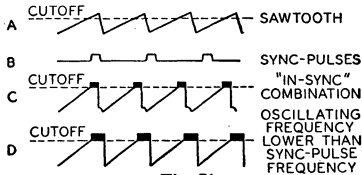

Fig. 71
are also applied to the grid of V_1 . The waveforms shown in Fig. 71 illustrate the sawtooth and sync pulses (A and B) and their proper "in-sync" combination (C). The sync pulse occurs partly during the portion of the sawtooth voltage in which the triode V_1 draws current. Any shift in sync pulse as it is superimposed
For example, waveform D in Fig. 71 illustrates a condition in which the sawtooth voltage is advanced in phase with respect to the sync-pulses. The widening of the pulse which occurs at the corner of the sawtooth waveform allows the control tube to conduct more current and, consequently, allows the capacitor C_1 to charge to a higher voltage. This increased reference voltage also appears in the grid circuit of V_2 and makes the grid more positive. The increased grid voltage then speeds up the frequency of oscillations until proper synchronization results.